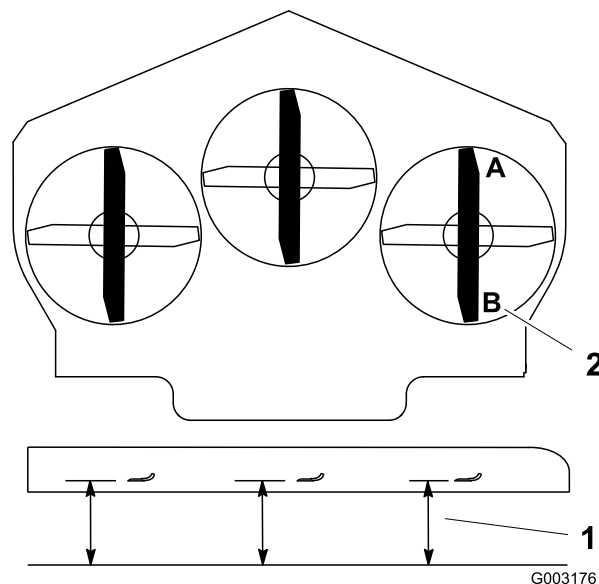

Figure 79
1. Position the right blade front-to-rear (Figure 79).
2. Measure the right blade at the **A** location, from a level surface to the cutting edge of the blade tip (Figure 79).
4. Measure the right blade at the **B** location, from a level surface to the cutting edge of the blade tip (Figure 79).
6. The mower blade should be 1/4 to 3/8 inch (6 to 10 mm) lower at position **A** than at position **B** (Figure 79). If it is not correct, proceed to the following steps.